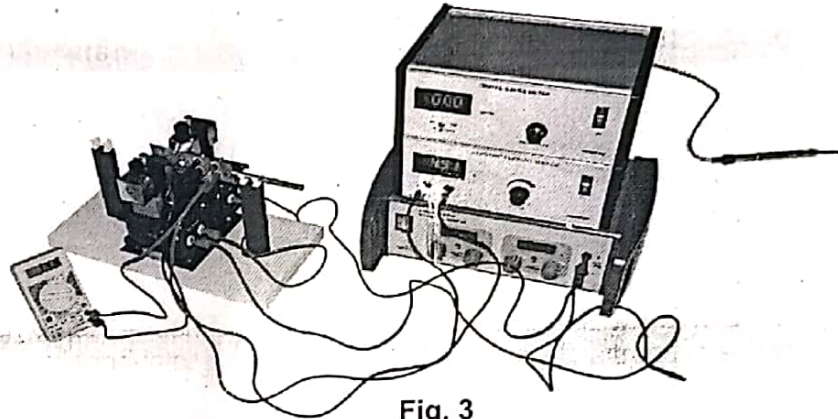

Fig. 3
- (1) Before starting the actual experiment, check whether the Gauss meter shows the reading to be zero or not. To do this place the Hall probe away from the electromagnet and switch on the Gauss meter as shown in fig.3. It will show Zero value. It may sometimes show some value. Set it at zero or account for it while taking the observations.
- (2) Set the current, say at 5 mA in constant current source and keep the magnetic field at zero as recorded by Gauss meter.